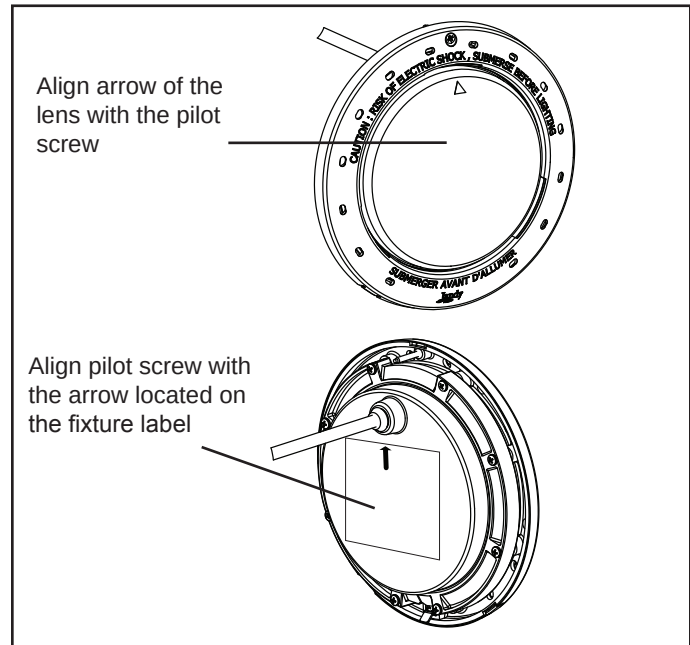

**Figure 9. Alignment of the Lens, Face Ring, Housing and Clamps for White LED Lights**
3. Position the lens and gasket on the fixture. Place the face ring assembly over the lens and align the pilot screw with the small arrow mark on the face of the lens. Note that the small arrow mark on the face of the lens and the pilot screw of the face ring must be aligned with the arrow located on fixture label that reads, "Arrow on this label must line up with the pilot screw on the Face Ring". See Figure 9.
6. Tighten the Phillips head screws (eight (8) for large light and six (6) for small light) on the light in alternating cross-pattern. Torque screws to approximately 25 in-lbs.